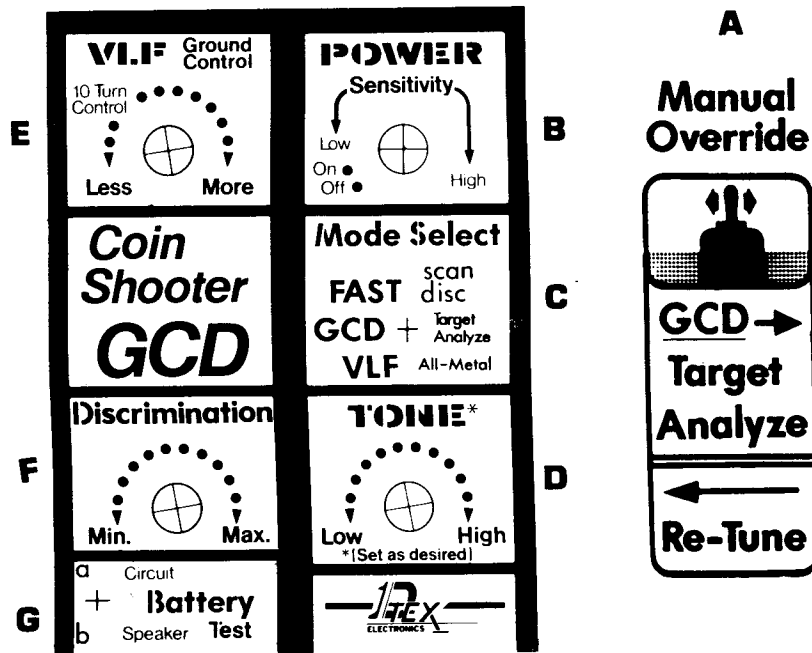

FIGURE 2
1. **TURNING IT ON (See Figure 2)**
3. **MINERAL COMPENSATION (See Figure 2)**
4. **DISCRIMINATION — HOW TO SET (See Figure 2)**
5. **CHECKING BATTERIES (See Figure 2)**
7. **SELECTING SOUND PITCH (See Figure 2)**
8. **MANUAL OVERRIDE SWITCH (See Figure 2)**